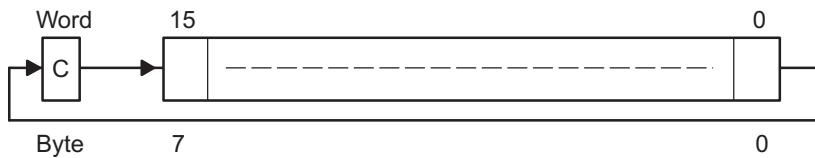

Figure 3-18. Destination Operand - Carry Right Shift
| Description | The destination operand is shifted right one position as shown in Figure 3-18 . The carry bit (C) is shifted into the MSB, the LSB is shifted into the carry bit (C). |